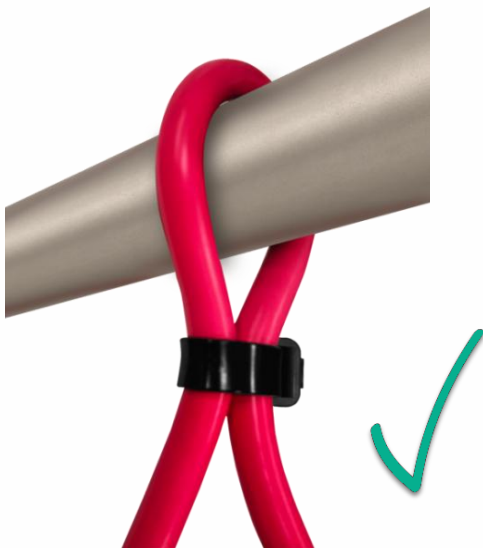

Figure 1.1
3. In practical applications, if the measured conductor is offset from the center of the Rogowski coil, tilted, or if the conductor size is disproportionate to the coil diameter, the measurement accuracy may be affected. When the conductor is only slightly tilted or off-center, the meter can still maintain acceptable measurement accuracy, but the error will increase accordingly. To achieve higher measurement precision, it is recommended to keep the measured conductor as perpendicular to the coil as possible and ensure it passes through the center of the coil. Figure 1.1 illustrates the recommended cable tie fixation method to minimize tilt.